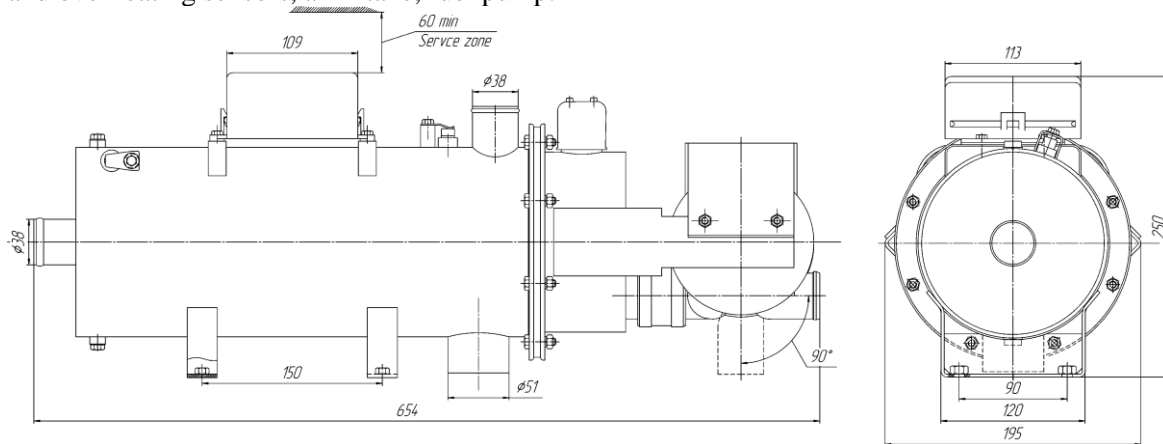

Figure 5 – Allowable working positions of the pre-heater
For installation of the heater to choose a place in the car according to item 10.1.1. To install the heater on a horizontal platform. The overall and mounting dimensions of the heater are shown in fig. 5. Installation of the heater on the engine, in salon or a cabin of the car isn't allowed.